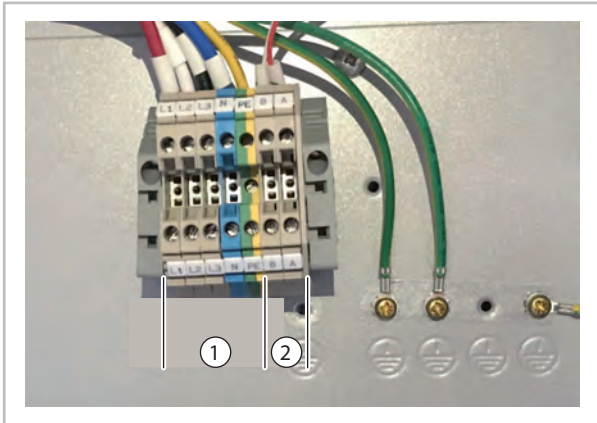

Fig. 9: WKF/WKF compact 170 outdoor unit connection terminal
- With the WKF/WKF compact 170 series, make sure that only terminals L1(R), L2(S), L3(T) and N are connected (see Fig. 9).